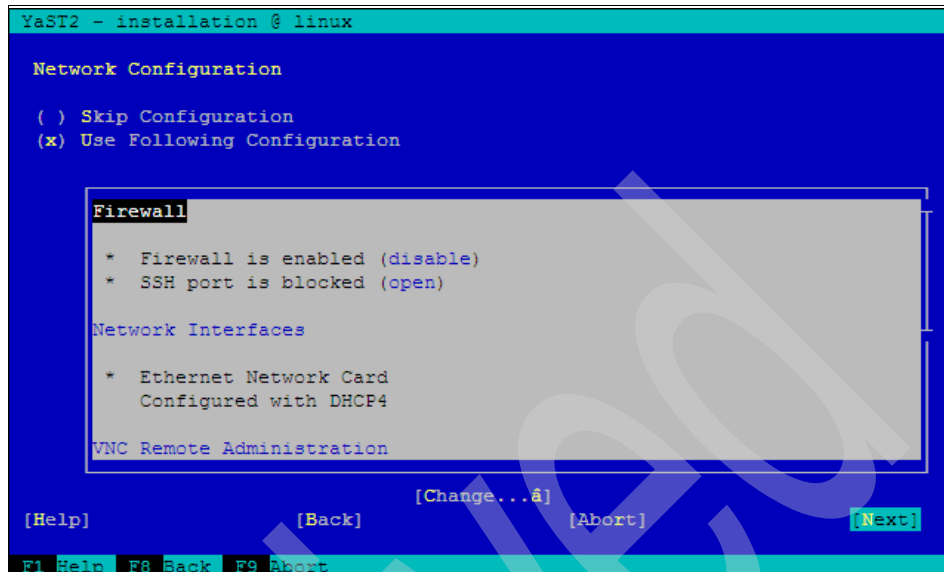

Figure 9-28 Change network configuration
21. Select **Use Following Configuration** in the Network Configuration window (Figure 9-28 on page 381) and verify that the Firewall is marked as **enabled**. Press Tab to **[Change]** to change the Secure Shell (SSH) port settings to open, as follows: